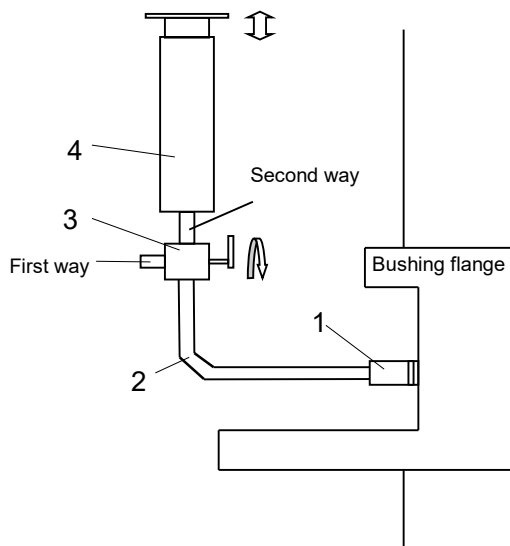
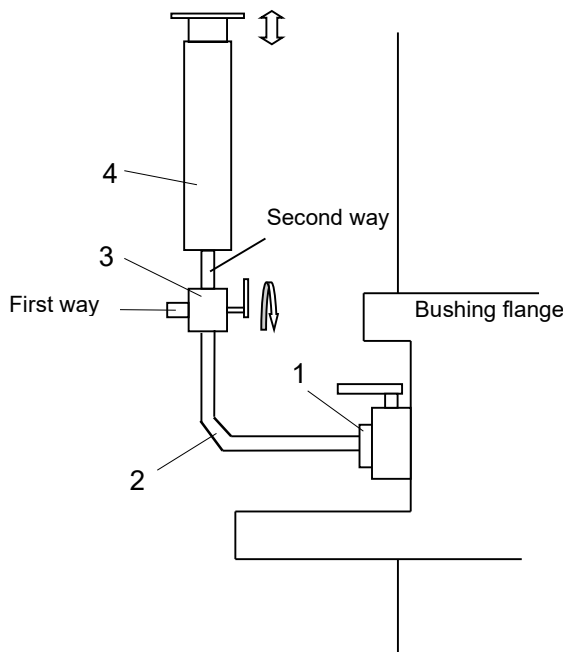

Fig .24
Fig. 25
On the bushing flange there is a screw plug (1/4"), which is positioned at about 180° from the PD tap: this is the oil sampling plug (see fig. 24).
Operate as follows (see fig. 24):
On the bushing flange there is a valve (see fig. 25 and 26) positioned in closed position: it is the oil sampling
- A 150 cm³ oil syringe (fig. 25 item 4) (Lab. Type);
- A semi-rigid pipe (fig. 25 item 2);
- An appropriate little flange suitable for fixing to the sampling valve (having 4 threaded M8 holes positioned at 90° from each other, with a holes wheelbase of 50 mm; the o-ring housing is positioned on the valve body). This small flange will have a suitable connection to the sampling semi-rigid pipe (fig. 25 item 1);
- A two-way cock (fig. 25 item 3) with a suitable connection to the syringe;
- Prepare all the syringe apparatus, with the cock (fig. 24 item 3) and the tube (fig. 25 item 2);
- Dismantle the closing flange unscrewing the 4 screws M8 and fix the sampling flange, provided by a suitable connection to the semi-rigid pipe (fig. 25 item 1);
- Open 2nd way of cock (fig. 25 item 3);
- Open 1st way of cock (fig. 25 item 3);
- Close 1st way of cock (fig. 25 item 3).
- Close the 1st way of the cock (fig. 25 item 3) and open the 2nd way;
- Shut off both 2nd way of the cock (fig. 25 item 3) and the bushing's valve;
- Remove the syringe by unplugging the cock (fig. 25 item 3) from the tube;
- Set the syringe with the cock (fig. 25 item 3) being up;
- Unplug the cock (fig. 25 item 3) and place a closing cap on the syringe;